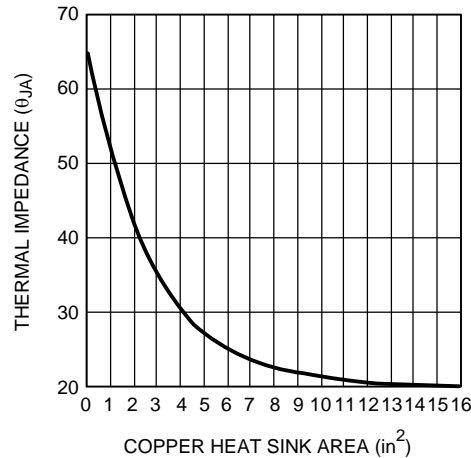

Figure 31. Thermal Resistance (Typ) for 5 Lead DDPAK/TO-263 Package Mounted on 1 Ounce of Copper
The DSDPAK/TO-263 package has excellent thermal characteristics. To minimize thermal impedance, its exposed die attach paddle should be soldered to a circuit board copper area for good heat dissipation. Figure 31 shows typical thermal resistance from junction to ambient as a function of the copper area. The DDPAK/TO-263's exposed die attach paddle is electrically connected to the V_{EE} power supply pin.
If a heat conductive copper plane has perfect thermal conduction (heat spreading) through the plane's total area, the temperature rise is inversely proportional to the total exposed area. PCB copper planes are, in that sense, an aid to convection. These planes, however, are not thick enough to ensure perfect heat conduction. Therefore, eventually a point of diminishing returns is reached where increasing copper area offers no additional heat conduction to the surrounding air. This is apparent in Figure 31. 2 oz copper boards will have decrease thermal resistance providing a better heat sink compared to 1oz. copper. Beyond 1oz or 2oz copper plane areas, external heatsinks are required. Ultimately, the 1oz copper area attains a nominal value of 20°C/W junction to ambient thermal resistance (θ_{JA}) under zero air flow.
5. θ_{JA} as a function of copper area in square inches is shown in Figure 31. Choose a copper area that will ensure the specified $T_{J(MAX)}$ for the calculated θ_{JA} . The maximum value of junction to ambient thermal resistance, θ_{JA} , is defined as:
4. Finally, choose the minimum value of copper area from **Figure 31** based on the value for θ_{JA} .
Examining the Copper Area vs. θ_{JA} plot (see **Figure 31**) indicates that a thermal resistance of $21.4^\circ\text{C}/\text{W}$ is possible with a $8\text{--}10\text{in}^2$ plane of one layer of 1oz copper. Other solutions include using two layers of 1oz copper or the use of 2oz copper. Higher dissipation may require forced air flow. As a safety margin, an extra 15% heat sinking capability is recommended.